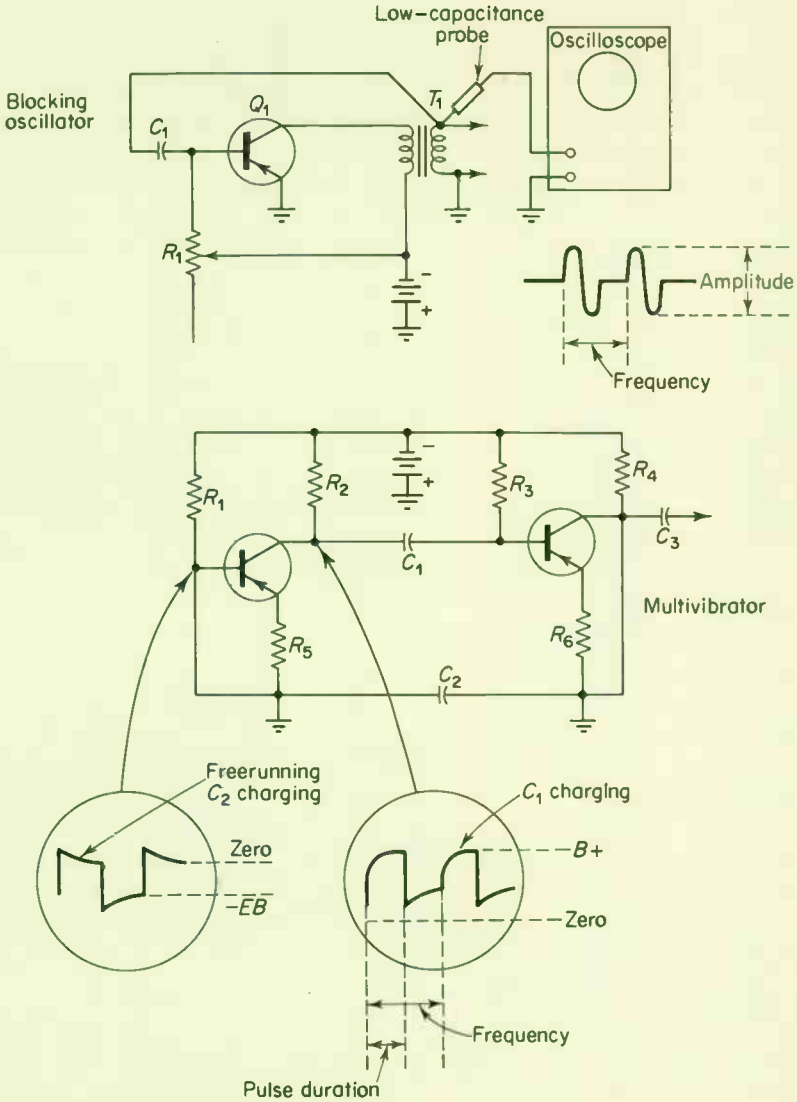

Fig. 12-17. Checking oscillator circuits with an oscilloscope.
1. Connect the equipment as shown in Fig. 12-17. Use a low-capacitance probe for all measurements. The oscilloscope should have a voltage-calibrated vertical axis, and a time-calibrated horizontal axis.
3. Switch on the oscillator circuit. Touch the low-capacitance probe to the circuit test point. Figure 12-17 shows two typical oscillator circuits and typical waveforms.